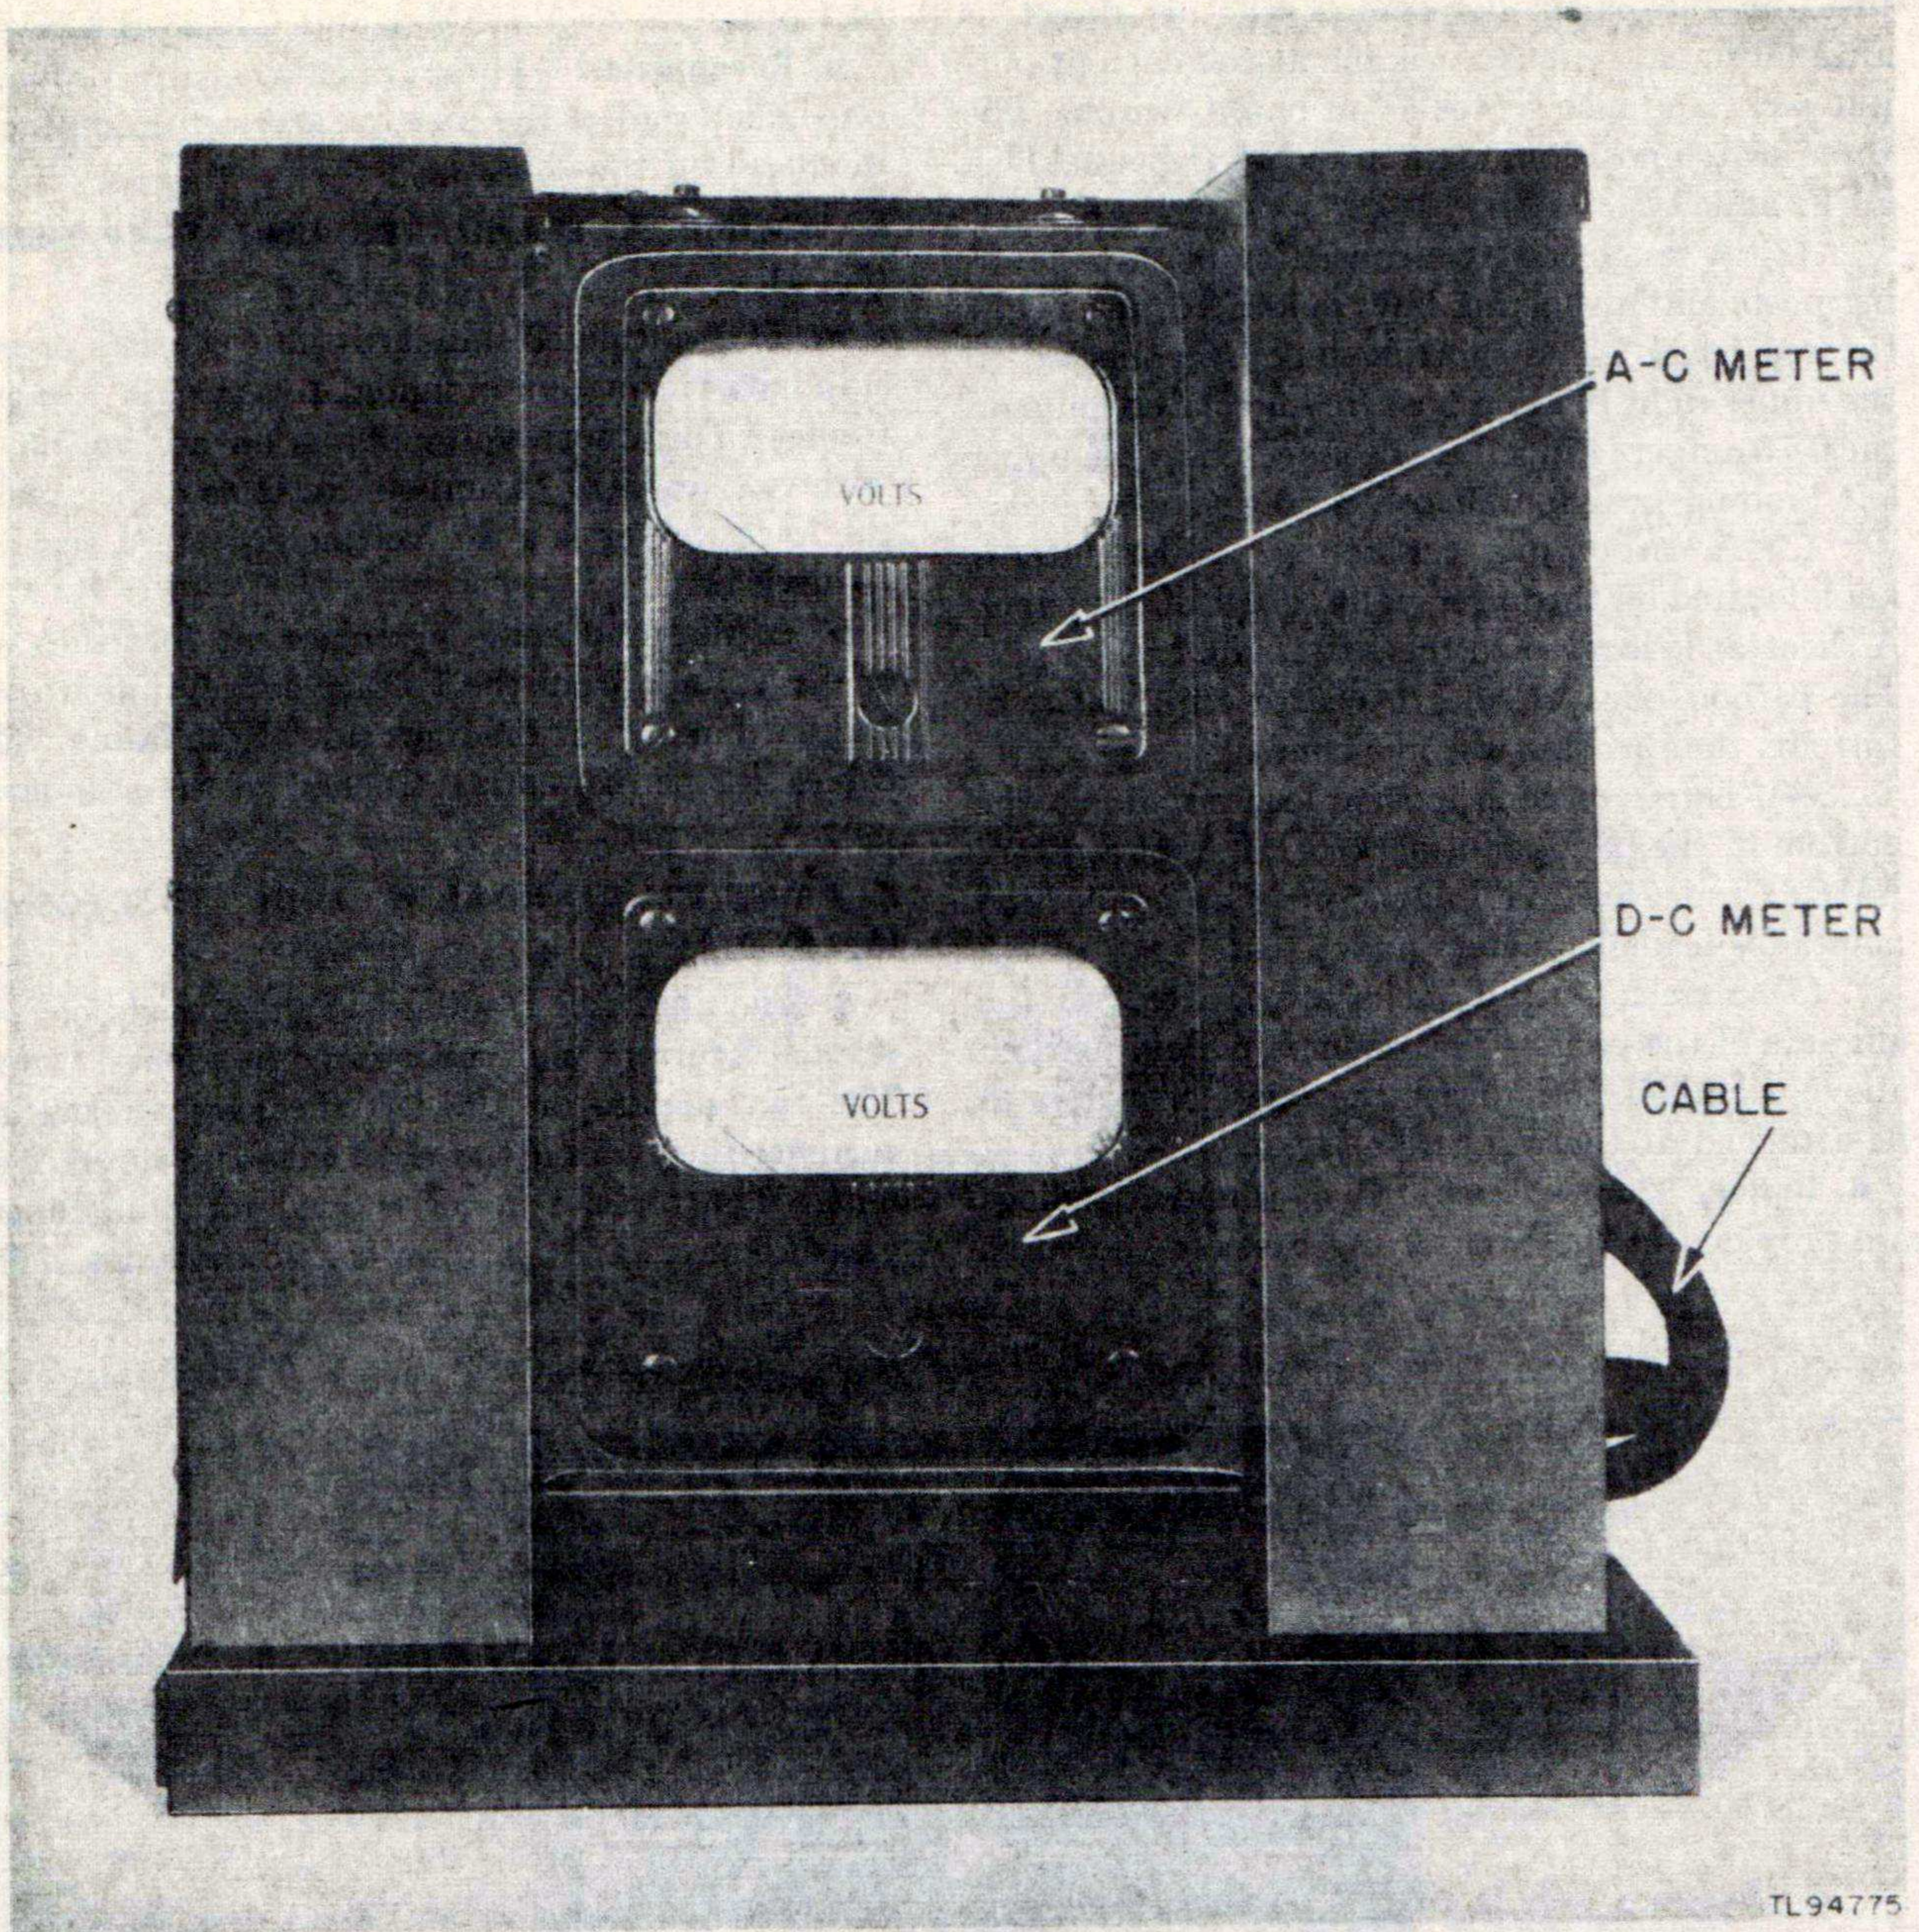

Figure 5. Voltmeter Standards Unit TS-49/GSM-1, front view.
6. VOLTMETER STANDARDS UNIT TS-49/GSM-1 (fig. 5).